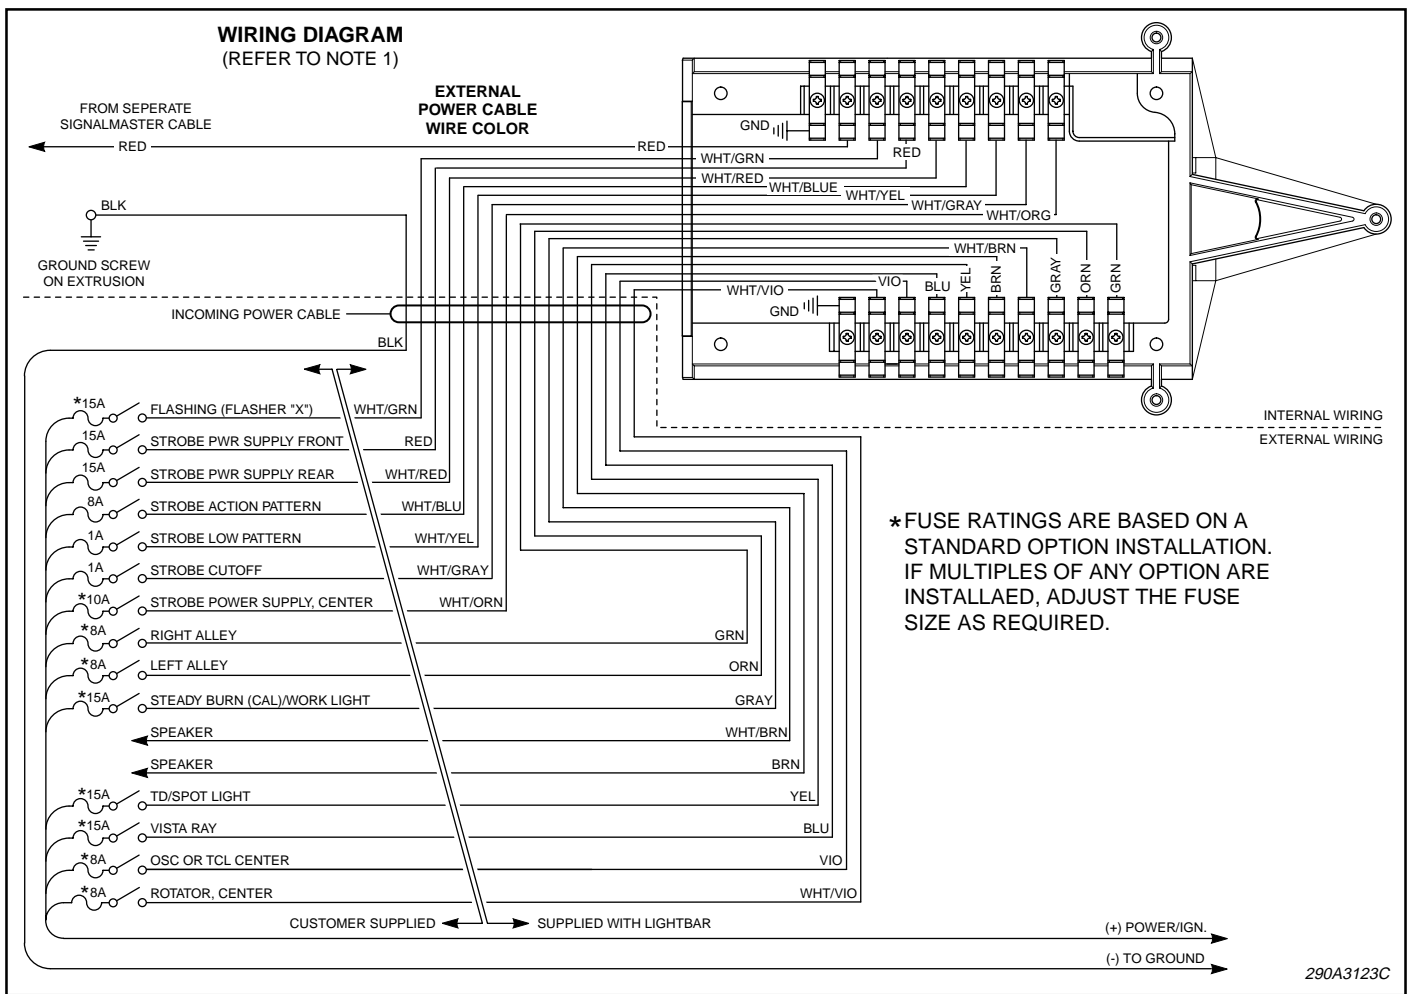

Figure 1.
2. For proper light operation, the control cable must be properly terminated inside the user-supplied control head. Using figure 1 and table 1 as a guide, make the appropriate electrical connections. Ensure that the lines are adequately fused as shown, and that switch capacity is adequate for the current requirement.